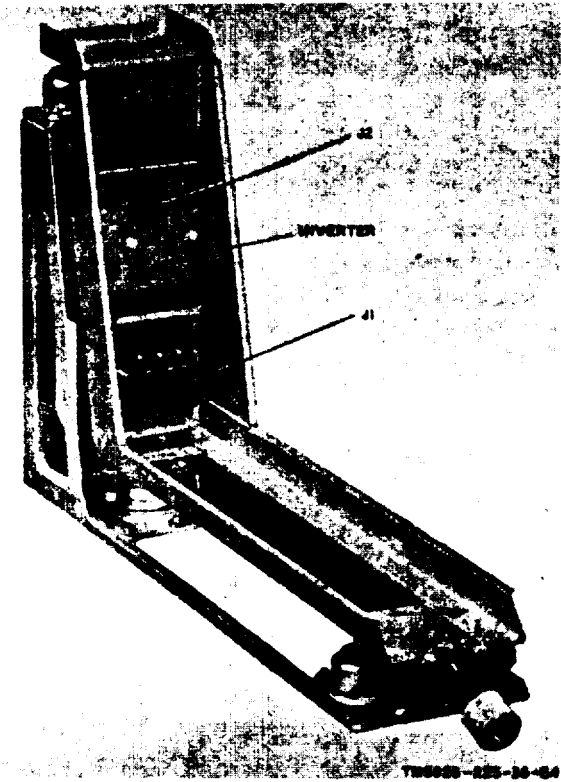

Figure 2-24. Mounting with inverter installed.
The only troubles that can occur in the receiver mount are damage to connectors (J1 and J2 of fig. 2-24) and aircraft wiring connections to the receiver mount. Therefore, the remainder of this section will be devoted to the inverter. All tests on the inverter require connections to Test Set, Direction Finder Set AN/ARM-93 and the source of 27.5-volt dc power used for testing the receiver and control unit. After making certain the test set DC POWER switch is set to OFF, remove the plate at the top of the test set front panel marked INVERTER. Loosen the two retaining screws on the inverter supplied with the test set and remove the inverter.
a. Remove the inverter mounted in Mounting MT-3605/ARN-83 (fig. 2-24).